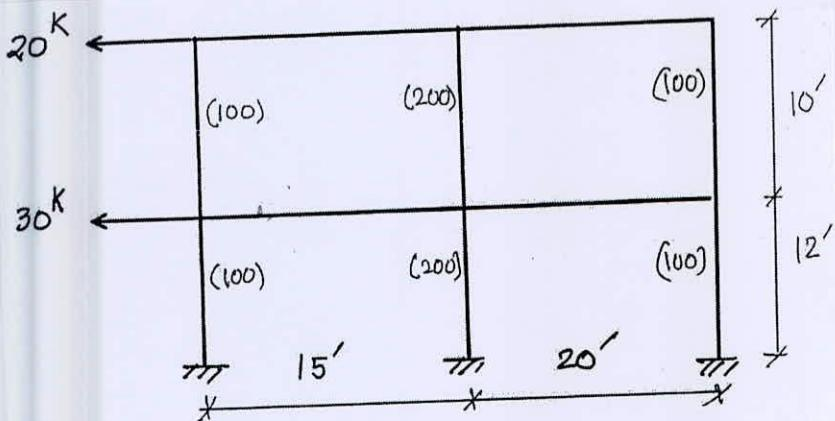

Fig. 14
11. Using Cantilever Method, analyze the frame as shown in Fig. 14 and draw (a) axial force diagram of columns, (b) bending moment diagram of columns, (c) bending moment diagram of beams, (d) shear force diagram of beams.